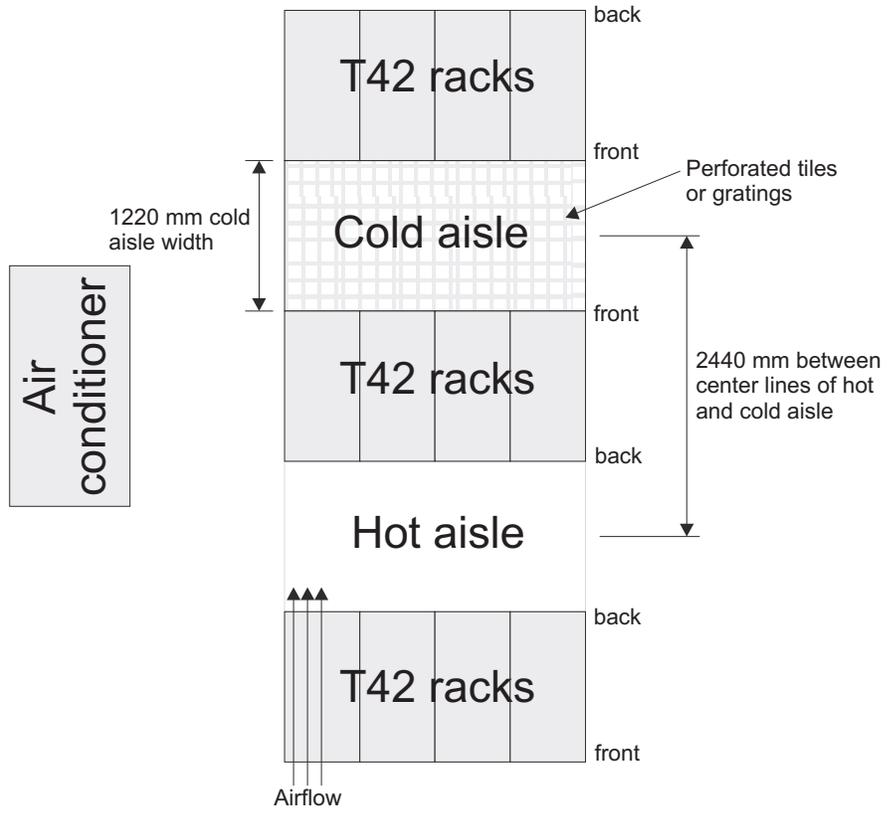

Figure 8. Example of cold aisle/hot aisle rack configuration
- Air enters at the front of the rack and leaves at the back. To prevent the air that is leaving the rack from entering the intake of another piece of equipment, you must position the racks in alternate rows, back-to-back and front-to-front. This arrangement is known as *cold aisle and hot aisle* and is shown in Figure 8 on page 18.